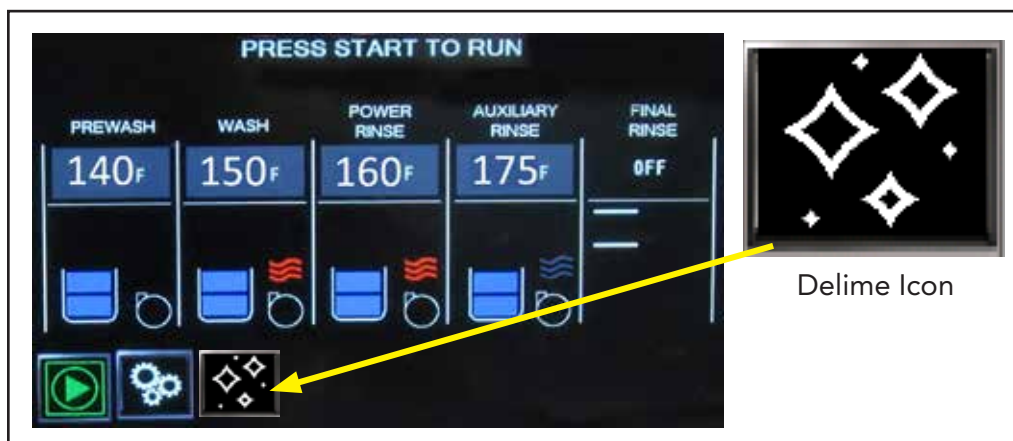

Fig. 35 - Automatic delime message.
- Remove the upper and lower spray arms, remove the end plugs and flush arms with fresh water in a sink. Make sure the end plug o-rings are in good condition (Fig. 35).
- The Main screen will display the delime icon when it is time to delime the machine. This icon will continue to appear until the operator performs the delime procedure (Fig. 35).